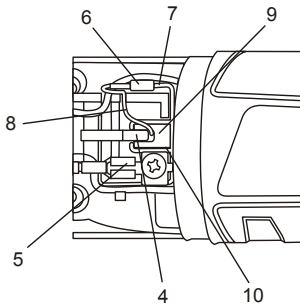

Fig. 12
5. Use a small slot screwdriver to lift the end of the coil spring (4) upward and place it on top of the spade connector (5) (Fig. 12).
6. Use small needle nose pliers to pull the braided wire spade connector (6) from the spade terminal (7).
7. Carefully grasp the braided copper brush wire (8) and lift the carbon brush (9) from the brush holder (10).
- b) Make sure the end of the coil spring is placed on top of the carbon brush (Fig. 12).